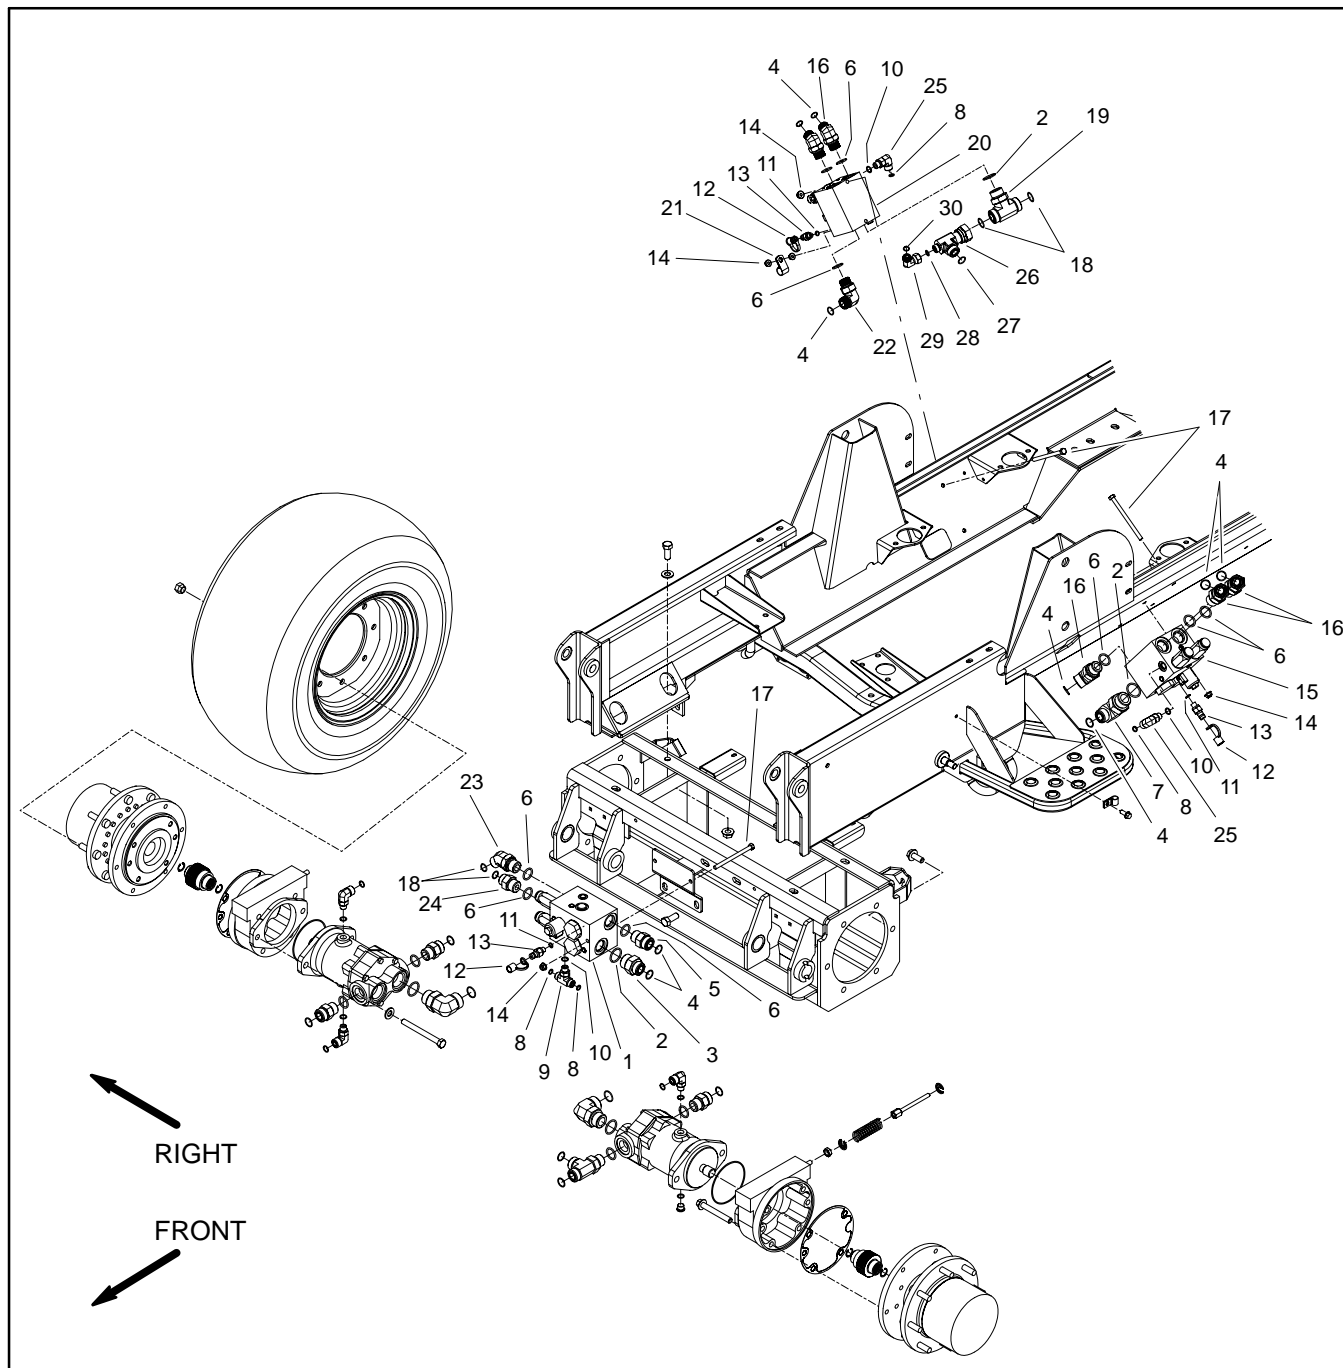

Figure 96
Removal (Fig. 96)
5. Remove hydraulic PTO manifold from the frame using Figure 96 as guide.
Installation (Fig. 96)
2. Install hydraulic PTO manifold to the frame using Figure 96 as guide.